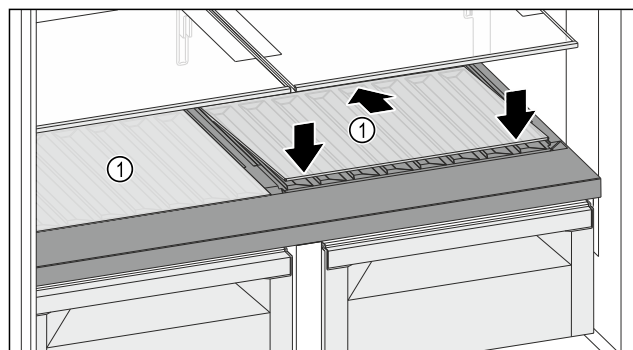

Fig. 136
- Place the glass shelf Fig. 136 (1) at an angle, tilted back and down.
- Lower the glass shelf Fig. 136 (1) at the front.